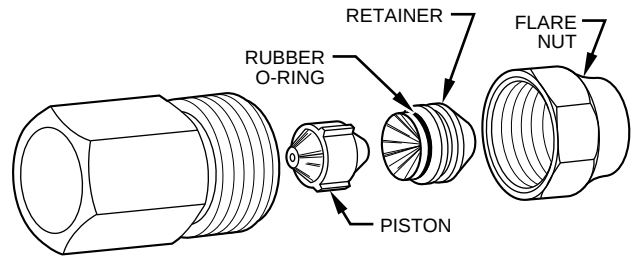

Fig. 8—Refrigerant Metering Device
6. Using small wire, pull piston from body of refrigerant metering device. (See Fig. 8.)